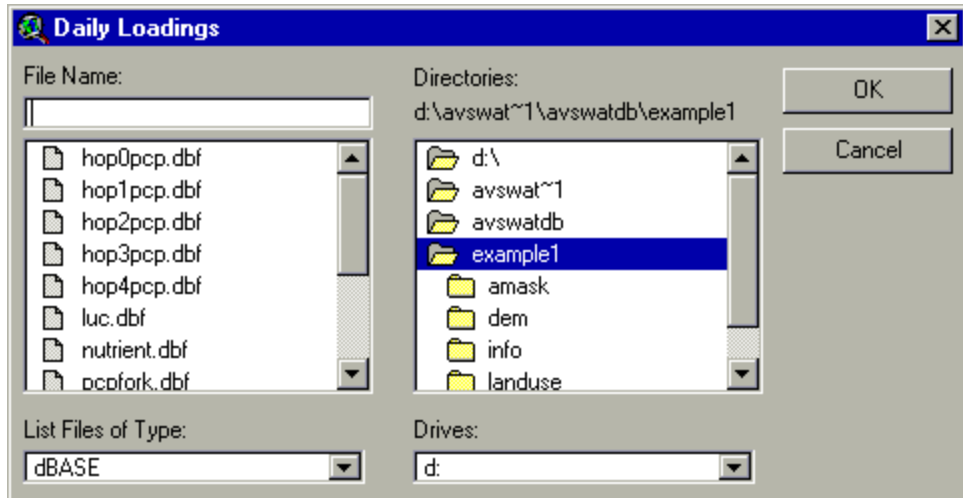

Figure 10.15
- iii. A browser will be displayed, allowing the user to select the dBASE file (.dbf) or text file (.txt) file containing the inlet discharge data from disk (Figure 10.15).